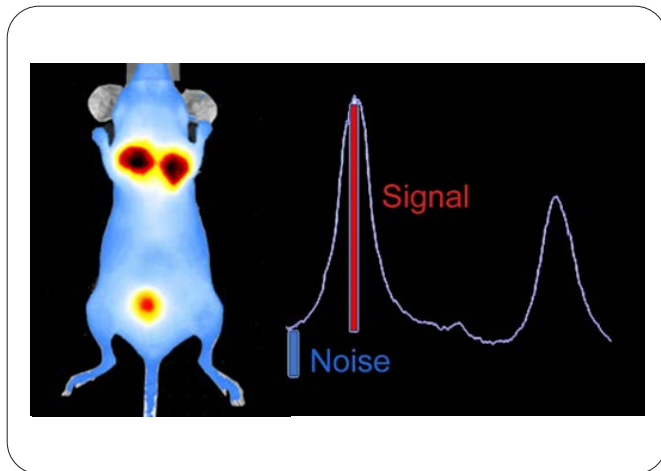

Figure 2: Improved signal to noise ratio. Inset-CCD camera
- Improved signal-to-noise ratio for fluorescent and bioluminescent signals (figure 2)